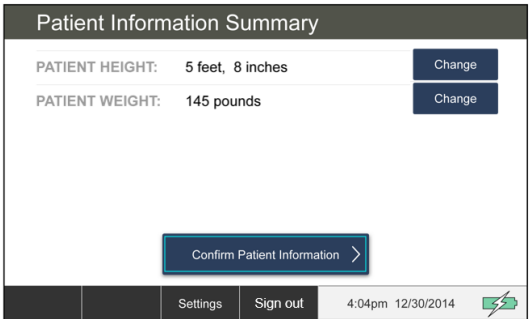

Figure 42 Patient Information Summary
4. Confirm Patient Information (see Figure 42).